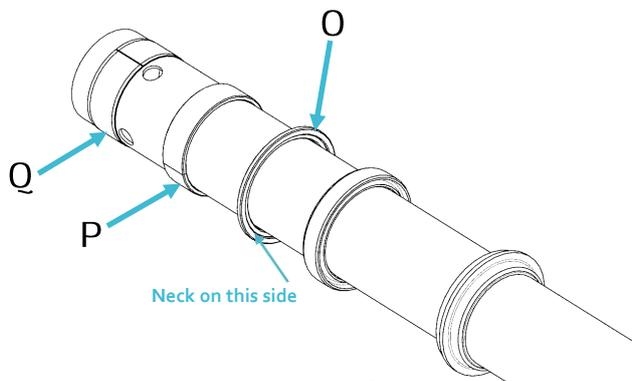

Fig.11
- Insert the spacer (O) respecting the assembly direction as shown in Fig. 11.
- Insert the lower bushing (P) and then insert the upper bushing (O) into its seat.